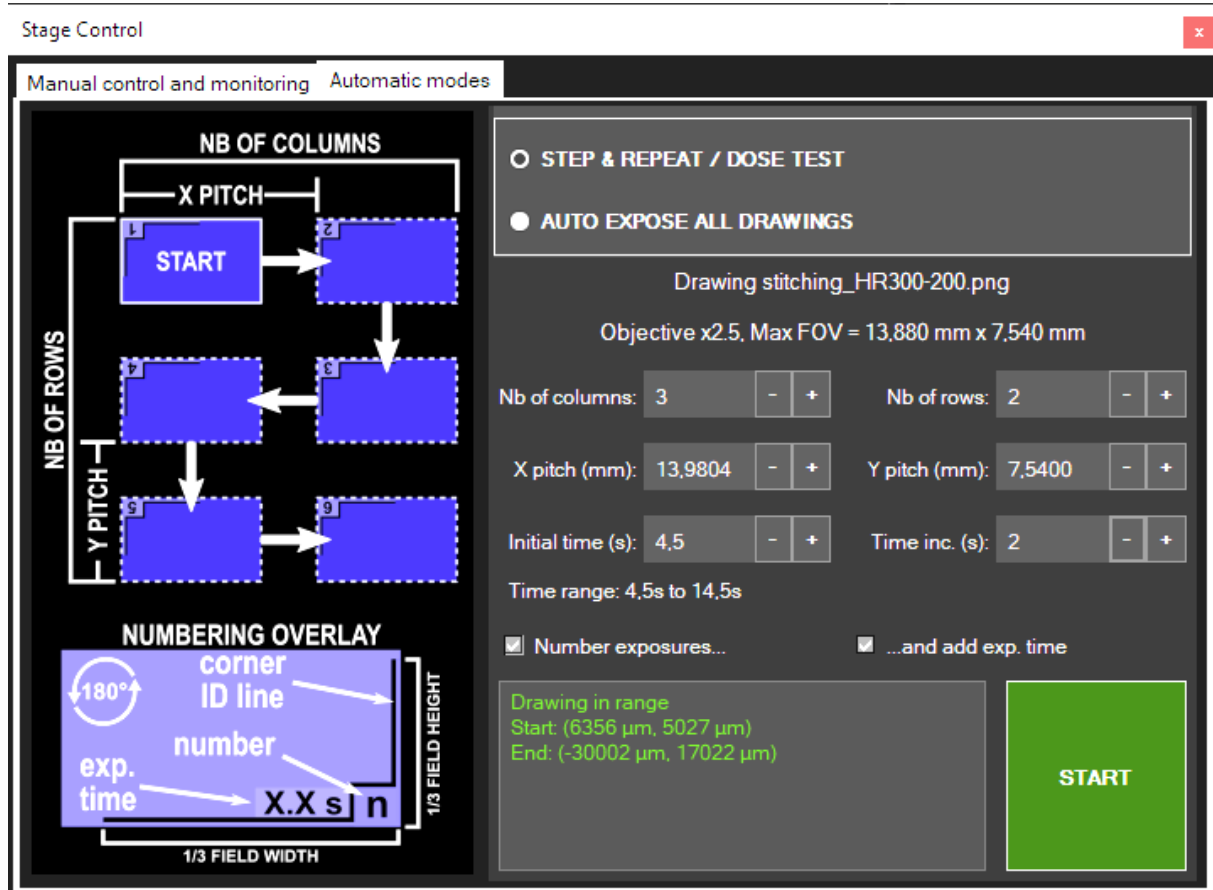

Figure 34 – Automatic mode tab in XY stage window
- Go to **Automation** menu and click on **Dose test**. A new window opens as shown in Figure 34. The “Step & Repeat / Dose Test” mode should be selected. “Selected drawing” and “Selected objective and Max FOV” fields respectively indicate which drawing will be exposing with which objective and the corresponding max projected field-of-view.
- **Initial time** (in s). It corresponds to the exposure time of the first element of the array (Start position in the schematic Figure 34).